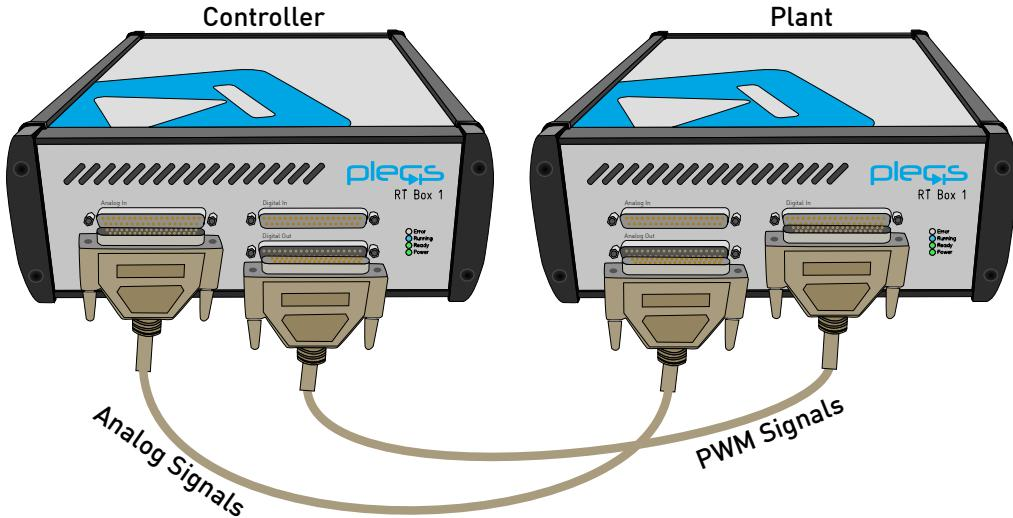

Figure 5: Interconnection of two RT Boxes running the plant and controller models
This demo model runs both in offline mode on a PC or in real-time on the PLECS RT Box. For the real-time operation, two RT Boxes are needed that exchange digital PWM and analog sensor signals using two 37 pin Sub-D cables. The connection of the two boxes is depicted in Fig. 5.
- Connect the Analog Out interface of the “Plant” RT Box to the Analog In interface of the “Controller” RT Box, and the Digital In interface of the “Plant” RT Box to the Digital Out interface of the “Controller” RT Box (e.g. using two DB37 cables shown in Fig. 5).